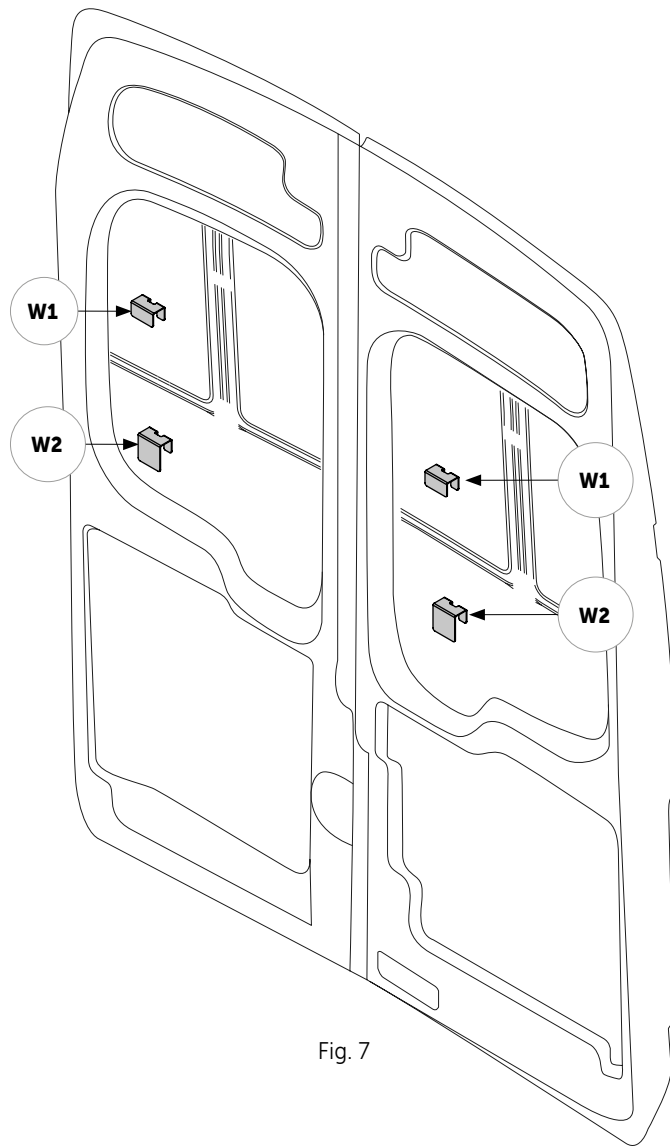

Fig. 7
9. Apply the organiser to the car body and make sure it adheres correctly. Clean and degrease the surface where reinforcements **W1** and **W2** will be stuck to the bodywork. Peel off the mounting tape and stick **W1** and **W2** to the bodywork (Fig. 7 and Fig. 8).